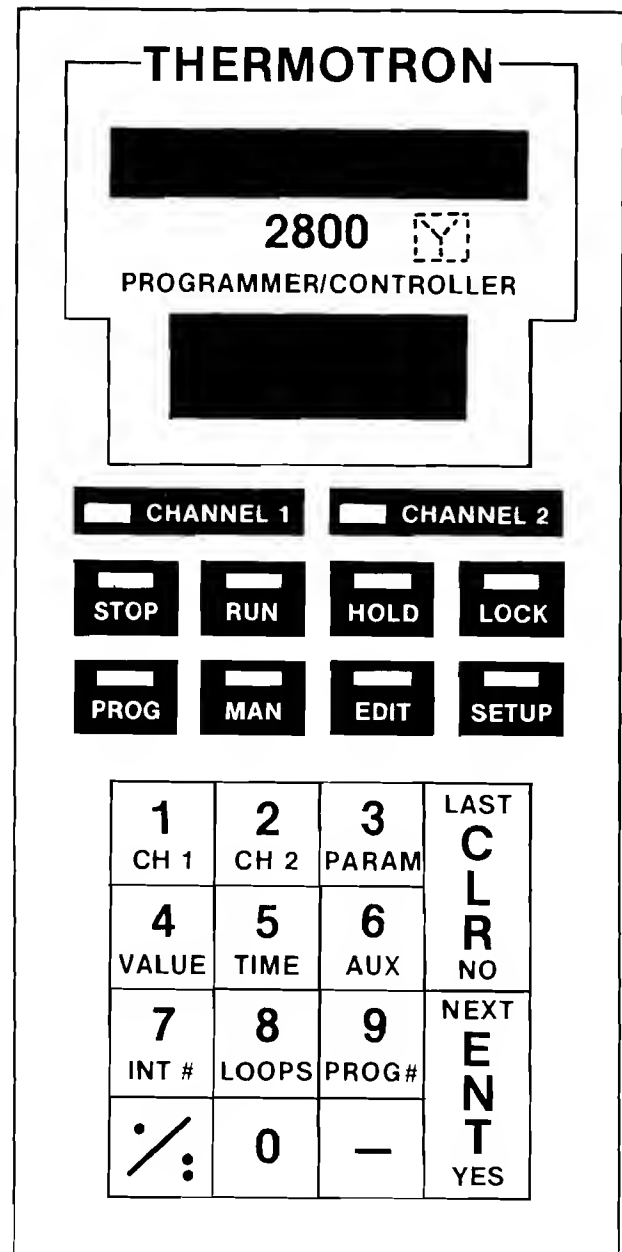

FIGURE 2
2. Press the **Y** key, hidden under the letters TROL between the two displays. See Figure 2. The alpha display shows ALARM COND. To end this procedure, press the **STOP** key. To continue, press the **ENT** key.